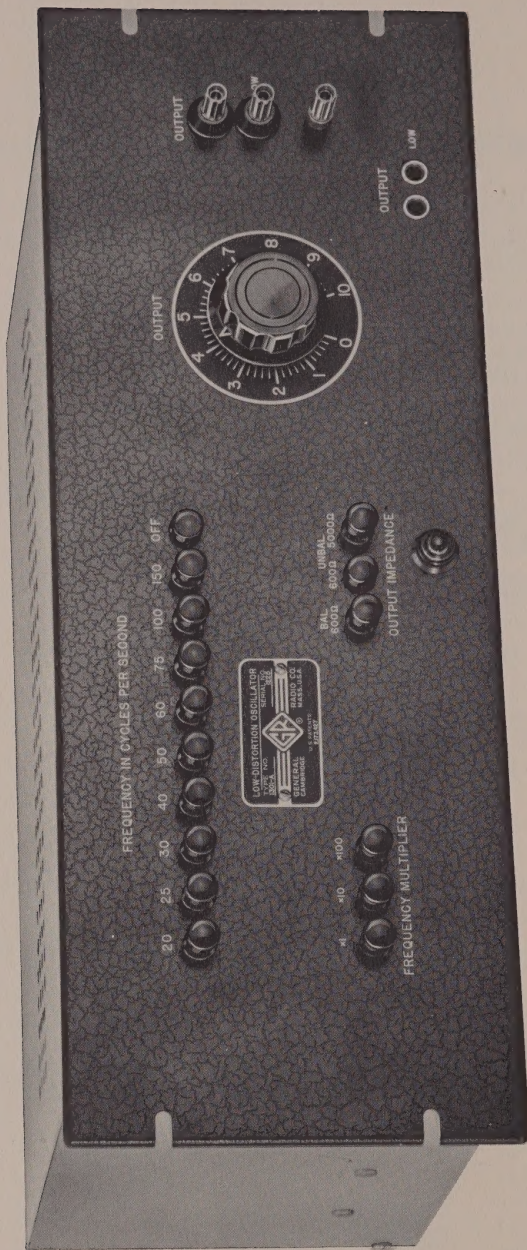

Figure 1. Type 1301-A Low-Distortion Oscillator.
1.1 PURPOSE. The Type 1301-A Low-Distortion Oscillator (Figure 1) is a source of audio-frequency power of extremely pure waveform, useful in distortion measurements on audio-frequency equipment and as a general-purpose laboratory oscillator.